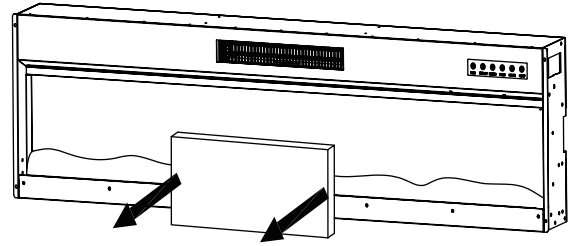

Figure 3
(3) Remove the perlite wool from inside the unit. (Figure 3)